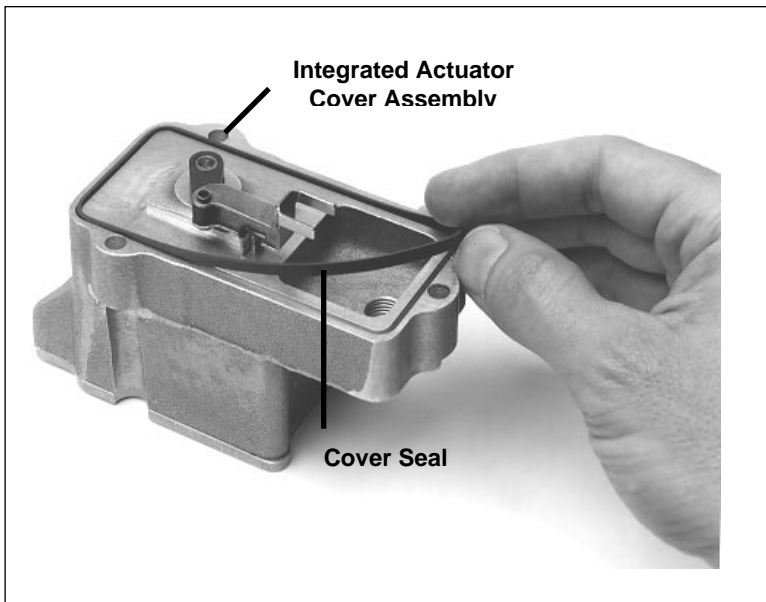

Figure 2
2.0 Install new COVER SEAL — Item 2 from the parts list, into the groove of the INTEGRATED ACTUATOR COVER ASSEMBLY as shown in *Figure 2*.